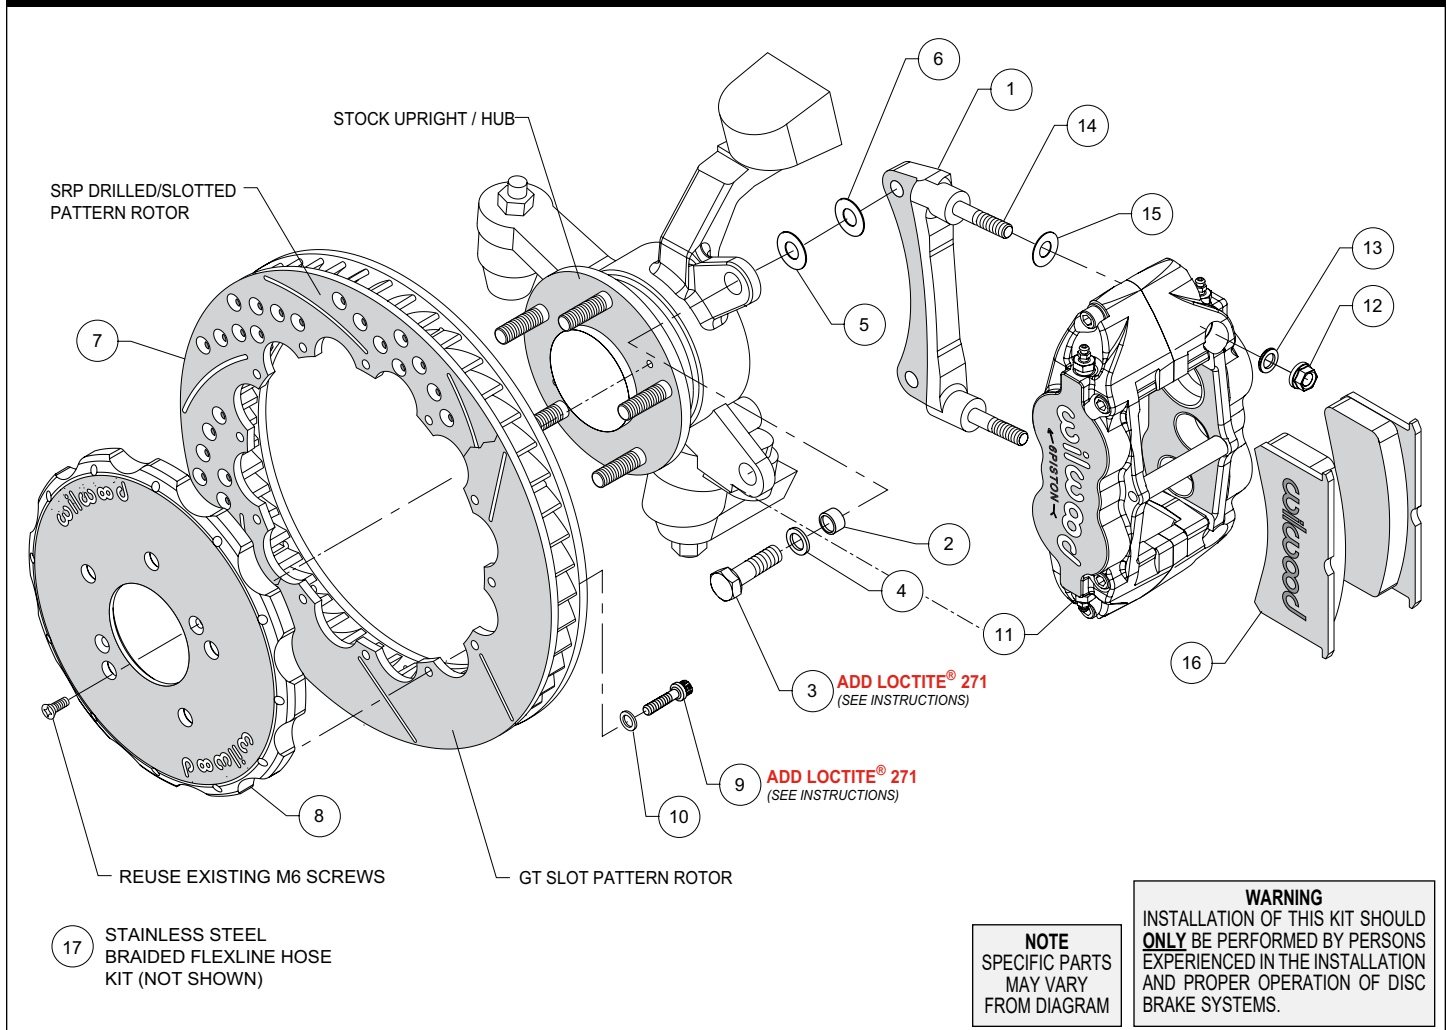
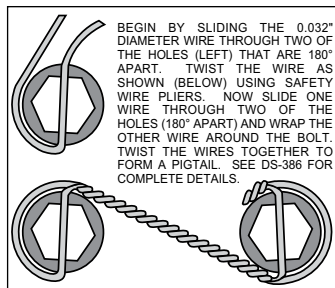

Figure 1. Typical Installation Configuration
Figure 3. Safety Wire Diagram
Assembly Instructions (numbers in parenthesis refer to the parts list and Figure 1 on the preceding pages):
- The caliper mount bracket (1) should initially be installed with clean, dry threads on the mounting bolts. Orient the bracket as shown in Figure 1 and Photo 1, and install using bolts (3), washers (4) and sleeve (2) inserted into the mount holes in the upright. Initially place one .030 thick shim (6) on each bolt between the bracket and upright, Figure 1. Temporarily tighten the mounting bolts. **NOTE: The bracket must fit squarely against the mount bosses on the upright.** Inspect for interference from casting irregularities, machining ridges, burrs, etc. Later, after the caliper alignment has been checked, the mount bolts will be secured using red *Loctite*® 271.
- Orient the rotor (7) and the hat (8) as shown in Figure 1 and Photo 2. Attach rotor to hat using bolts (9) and washers (10). Apply red *Loctite*® 271 to the bolt threads and torque to 155 in-lb using a criss-cross pattern. For an added measure of security, the bolts may be safety wired using standard 0.032 inch diameter stainless steel safety wire as shown in Figure 3. Please refer to Wilwood's data sheet DS-386 (available at www.wilwood.com/Pdf/DataSheets/ds386.pdf) for complete safety wire installation instructions.
- NOTE: This kit contains distinct right and left hand calipers that must be mounted in a specific direction, as described below.** Initially place one .035" thick shim (15) on each stud (14) as shown in Figure 1 and Photo 3. Mount the caliper (11) onto the bracket (1) using lock nuts (12) and washers (13), Figure 1. Ensure that the caliper is mounted so that the largest pistons are at the rotor exit end of the caliper, in relation to the direction of rotor rotation. Temporarily tighten the lock nuts and view the rotor through the top opening of the caliper. The rotor should be centered in the caliper, Photo 4. If not, adjust by adding or subtracting shims (5 and/or 6) between the bracket and the upright. Always use the same amount of shims on each of the two mounting bolts. Once the caliper alignment is correct, remove the bracket mounting bolts (3) one at a time, apply red *Loctite*® 271 to the threads, and torque to 42 ft-lb.